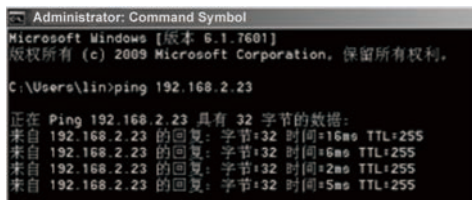

Figure 30
8. Set up complete open "CMD" window on PC, enter "ping 192.168.1.100" command to correspond with handheld reader, as Figure 30 shows the data transmitted has set up complete(Figure 30).